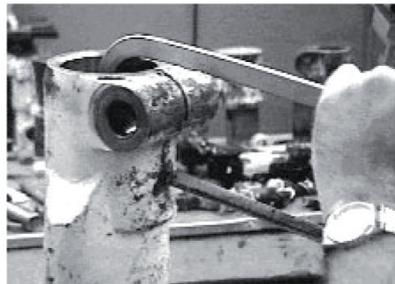

Figure 1
23. Remove the fronthead assembly (2) from the housing (1).
24. Remove the anvil bushing spring (27) and the spring seat (31) from the fronthead end of the housing (1).
25. If damaged, the piston seat (5) may be removed by:
- a. Using a hacksaw, place the saw into the slot in the fronthead end of the housing (1). Cut the piston seat retainer (30). Rotate the retainer with a screwdriver and saw the retainer again. Remove the retainer. Refer to Figure 1.
- b. The piston seat (5) is pressed into the housing (1), so the seat will have to be pressed out. Remove the seat through the fronthead end of the housing.